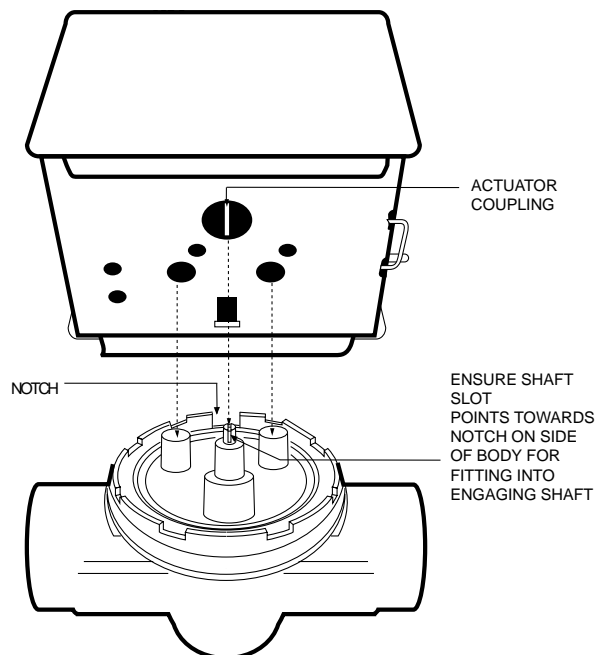

Fig. 7 Installing new actuator.
INSTALLING ACTUATOR ON VU-SERIES VALVE BODY ASSEMBLY(See Fig. 7) :
1. **Orient slot in shaft of VU-series valve body toward notch in side of body (i.e. 90° to water flow.)** See Fig. 7. This lifts the ball off seat, prevents damage to the ball seat while soldering, and makes actuator attachment easier.
5. Line up motor coupling to slot in shaft of body and fit the head onto the valve body, ensuring that the shaft seats correctly. (See Fig. 7)